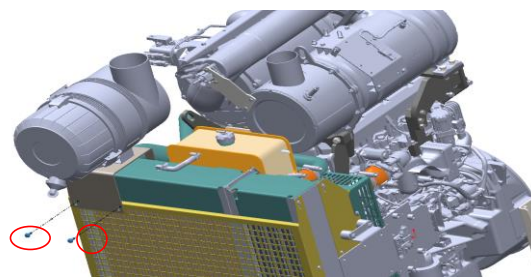

fig. 2
2. Assemble Air Cleaner Assembly (2) and Air Cleaner Bracket (9) on the radiator using four M8x1.25-16 bolts (11) as shown in figure 2 & 3.